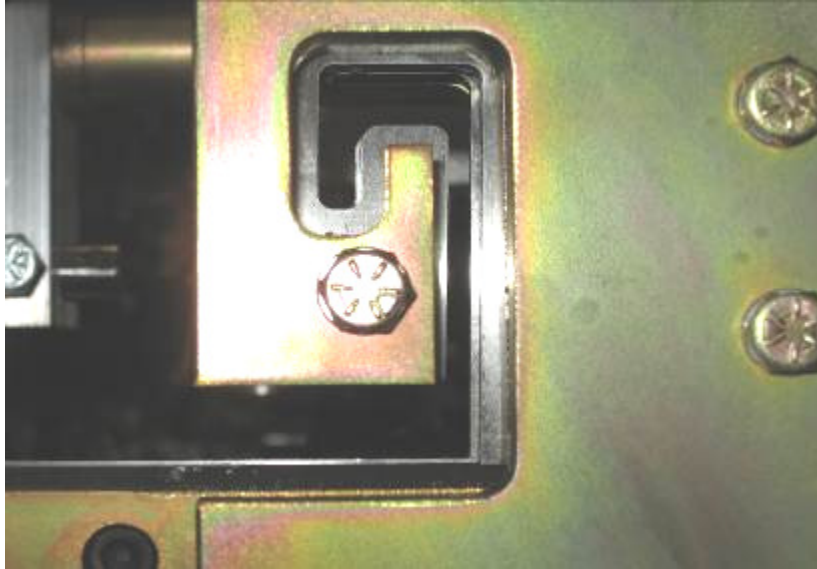

Figure 58: Exit Die Adjustment
31. Adjust the male and female exit dies so that they are offset to the outside of the entry die by approximately 1/64" and lock down the two "C" bolts (Figure 58) on each assembly. *This offset is necessary so that after a cut is made, the leading edge of the panel does not hang up on the exit die.*